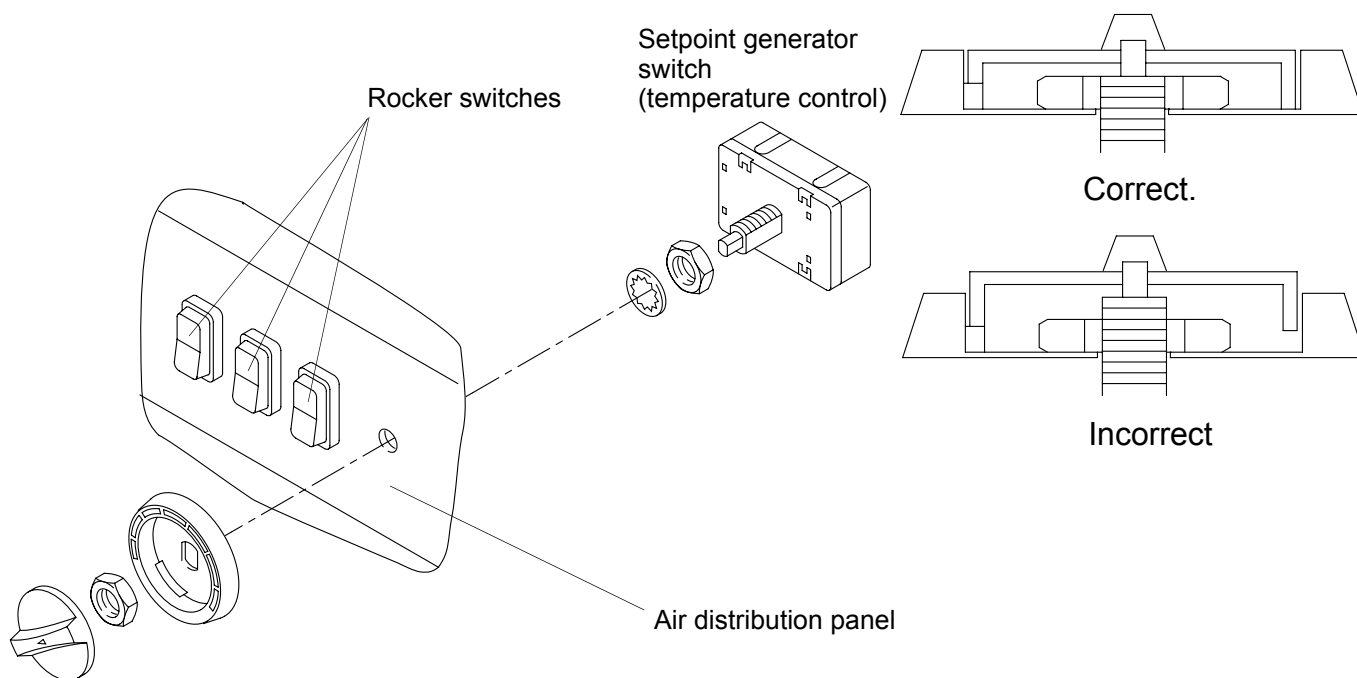

Fig. 409 Air distribution panel, assembly
1. Insert the rocker switches in the rectangular cut-outs in the air distribution panel so that they engage. (see Fig. 409).
2. Insert the setpoint generator switch into the hole in the air distribution panel as shown in Fig. 409.